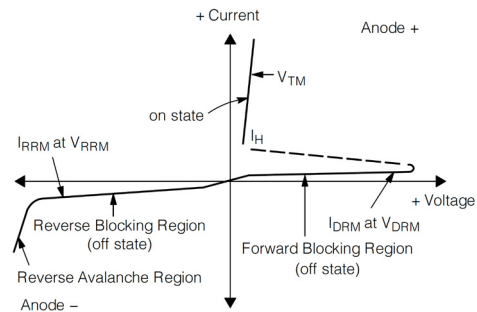

Figure 1.
- Ratings apply for  $t_w = 1\text{ ms}$ . See Figure 1 for  $I_{TM}$  capability for various duration of an exponentially decaying current waveform,  $t_w$  is defined as 5 time constants of an exponentially decaying current pulse.
- Ratings apply for  $t_w = 1 \text{ ms}$ . See Figure 1 for  $I_{TM}$  capability for various durations of an exponentially decaying current waveform.  $t_w$  is defined as 5 time constants of an exponentially decaying current pulse.